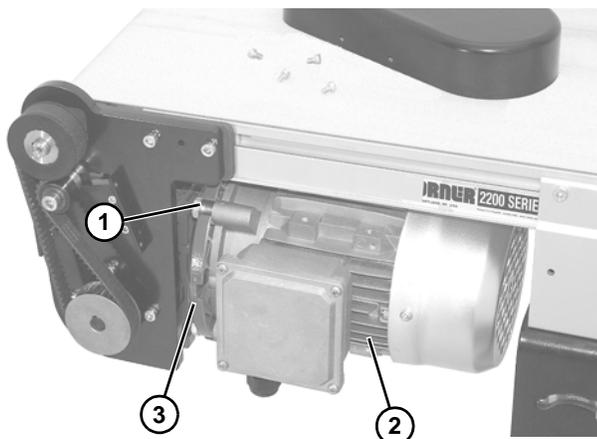

Figure 38
4. Remove four screws (**Figure 38, item 1**). Detach motor (**Figure 38, item 2**) from gear reducer (**Figure 38, item 3**). Retain motor output shaft key.